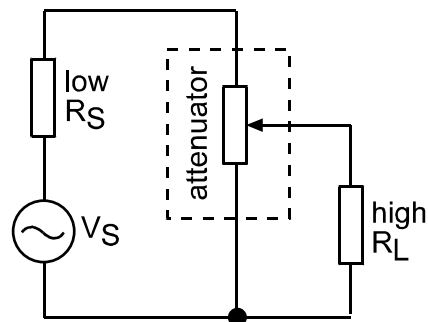

Fig 8.3 Voltage divider
3. By using passive attenuators at the input or output of an amplifying stage. In this the amplifier always operates at maximum gain, and the system gain is reduced to the required level by a resistive attenuator network. These may be switched resistors where high precision is required or a less accurate continuous potentiometer as shown in fig 8.3.